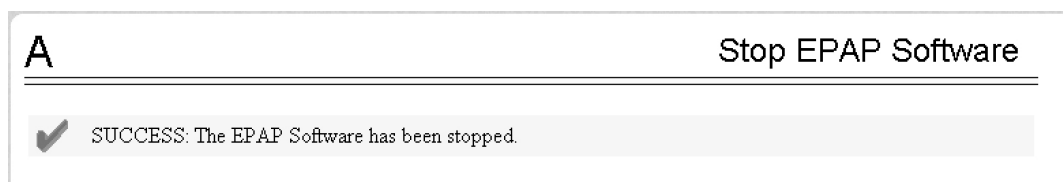

Figure 27: Stop EPAP Software - Success
- When you stopped the software on the selected EPAP, the screen in Figure 27: Stop EPAP Software - Success displays: